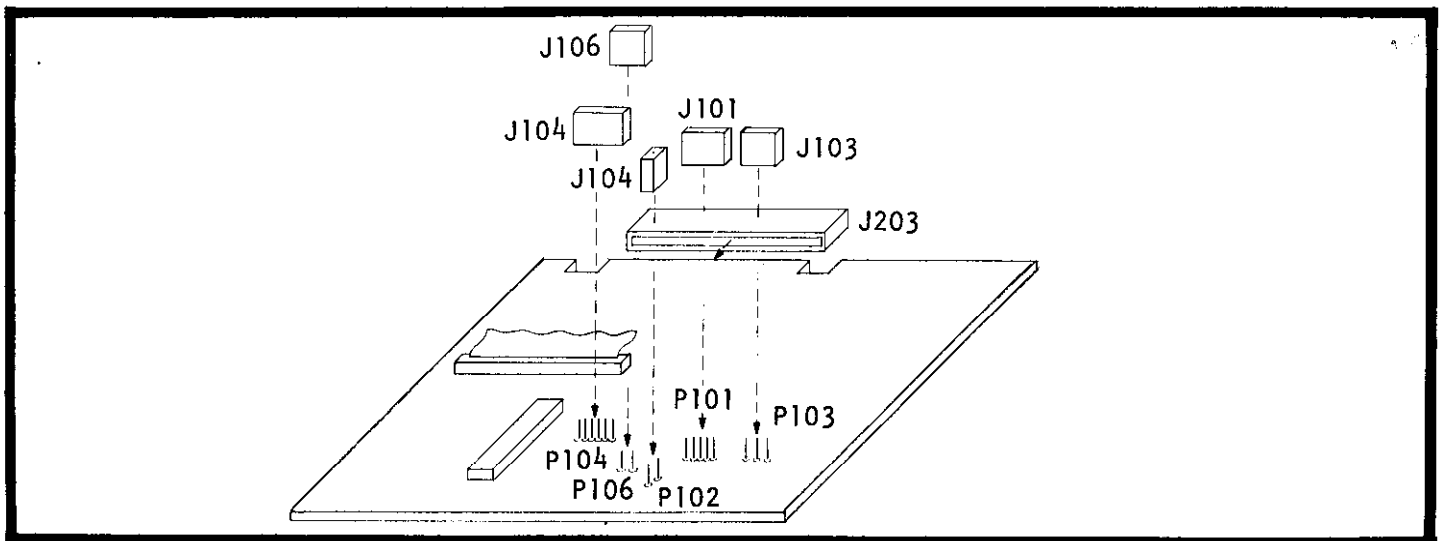

FIGURE 16. Mother Board Assembly.
5. Remove the Mother Board and lay flat as shown in Figure 16. (There should be enough slack in all interconnecting cables to allow the connections to remain intact.)